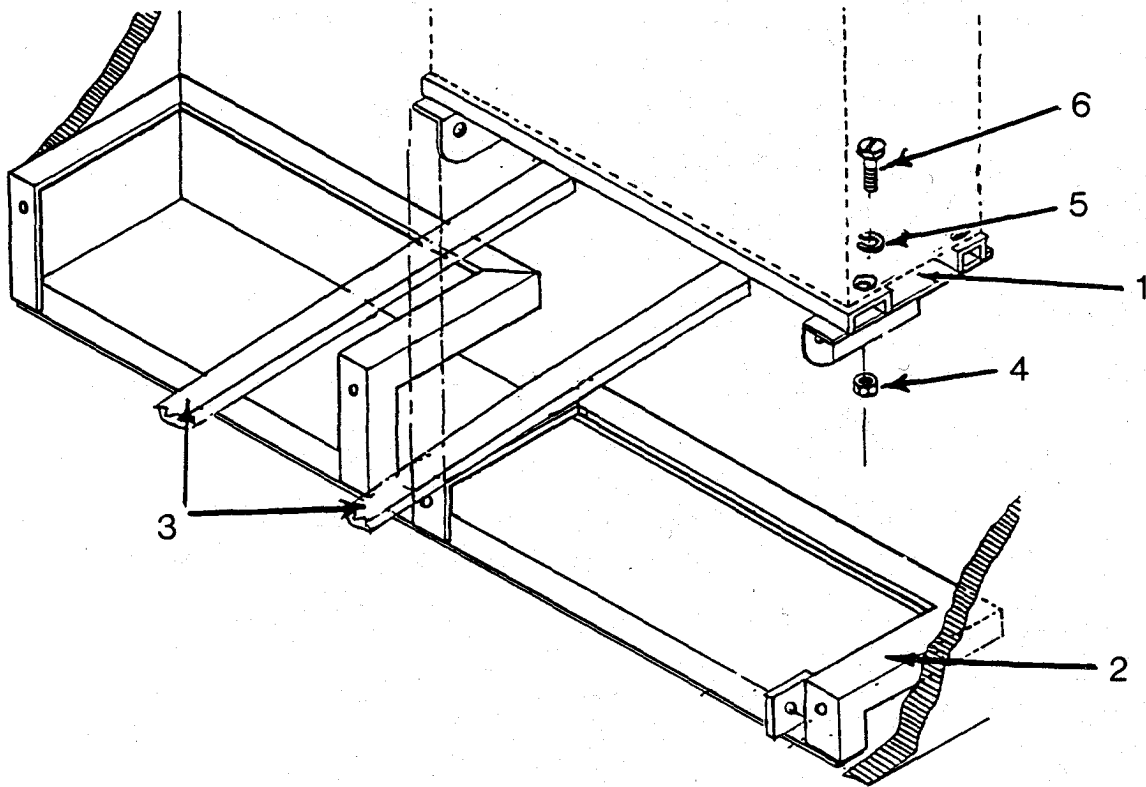

Figure 4-5. Lifting Air Conditioner With Fork Lift
(19) Slide air conditioner forward until rear of air conditioner mounting bracket (1, Figure 4-5) clears lower mounting bracket assembly (2).
(20) Carefully guide fork lift tines (3) under air conditioner mounting bracket (1) and move fork lift forward one foot to rear of mounting bracket (1).
(21) Lift air conditioner from lower mounting bracket assembly (2) and guide fork lift operator back from shelter.
(22) Lower air conditioner to ground.